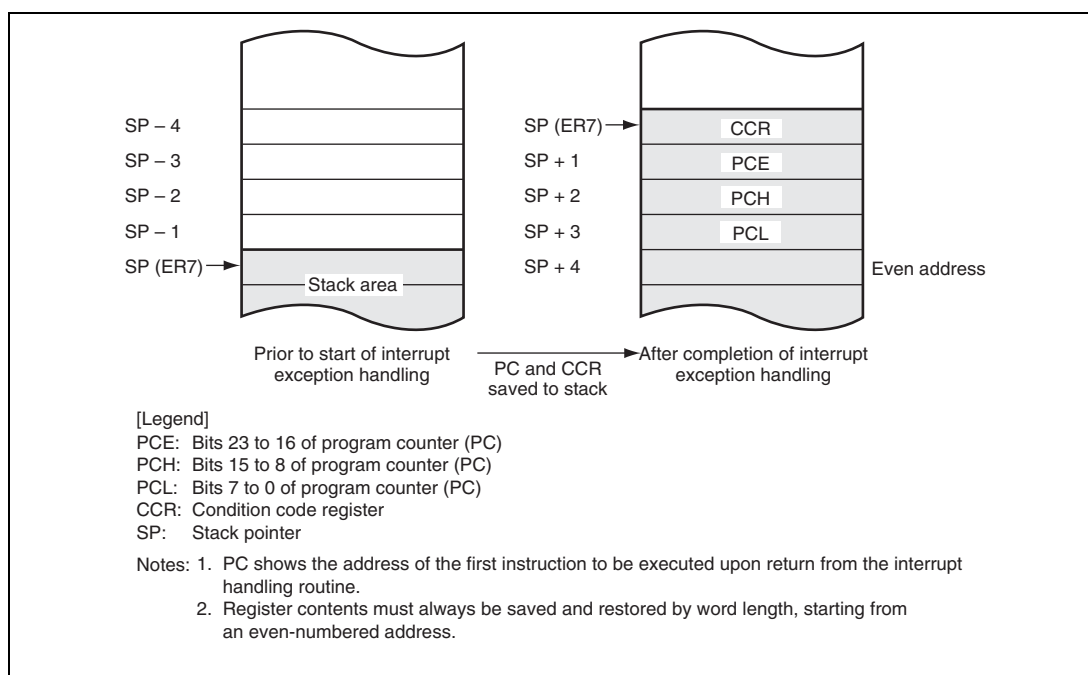

Figure 3.3 Stack Status after Exception Handling
4. If the CPU accepts the interrupt after execution of the current instruction is completed, interrupt exception handling will begin. First, both PC and CCR are pushed onto the stack. The stack status at this time is shown in figure 3.3. The PC value pushed onto the stack is the address of the first instruction to be executed upon return from interrupt handling.